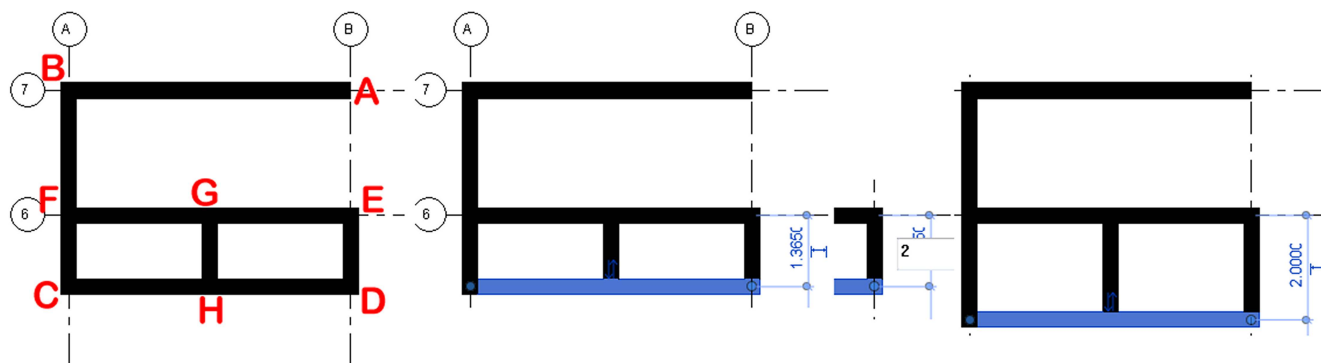

Fig. 2.14 – Shear Wall placement
22. Now draw the shear wall as shown in Fig. 2.14.